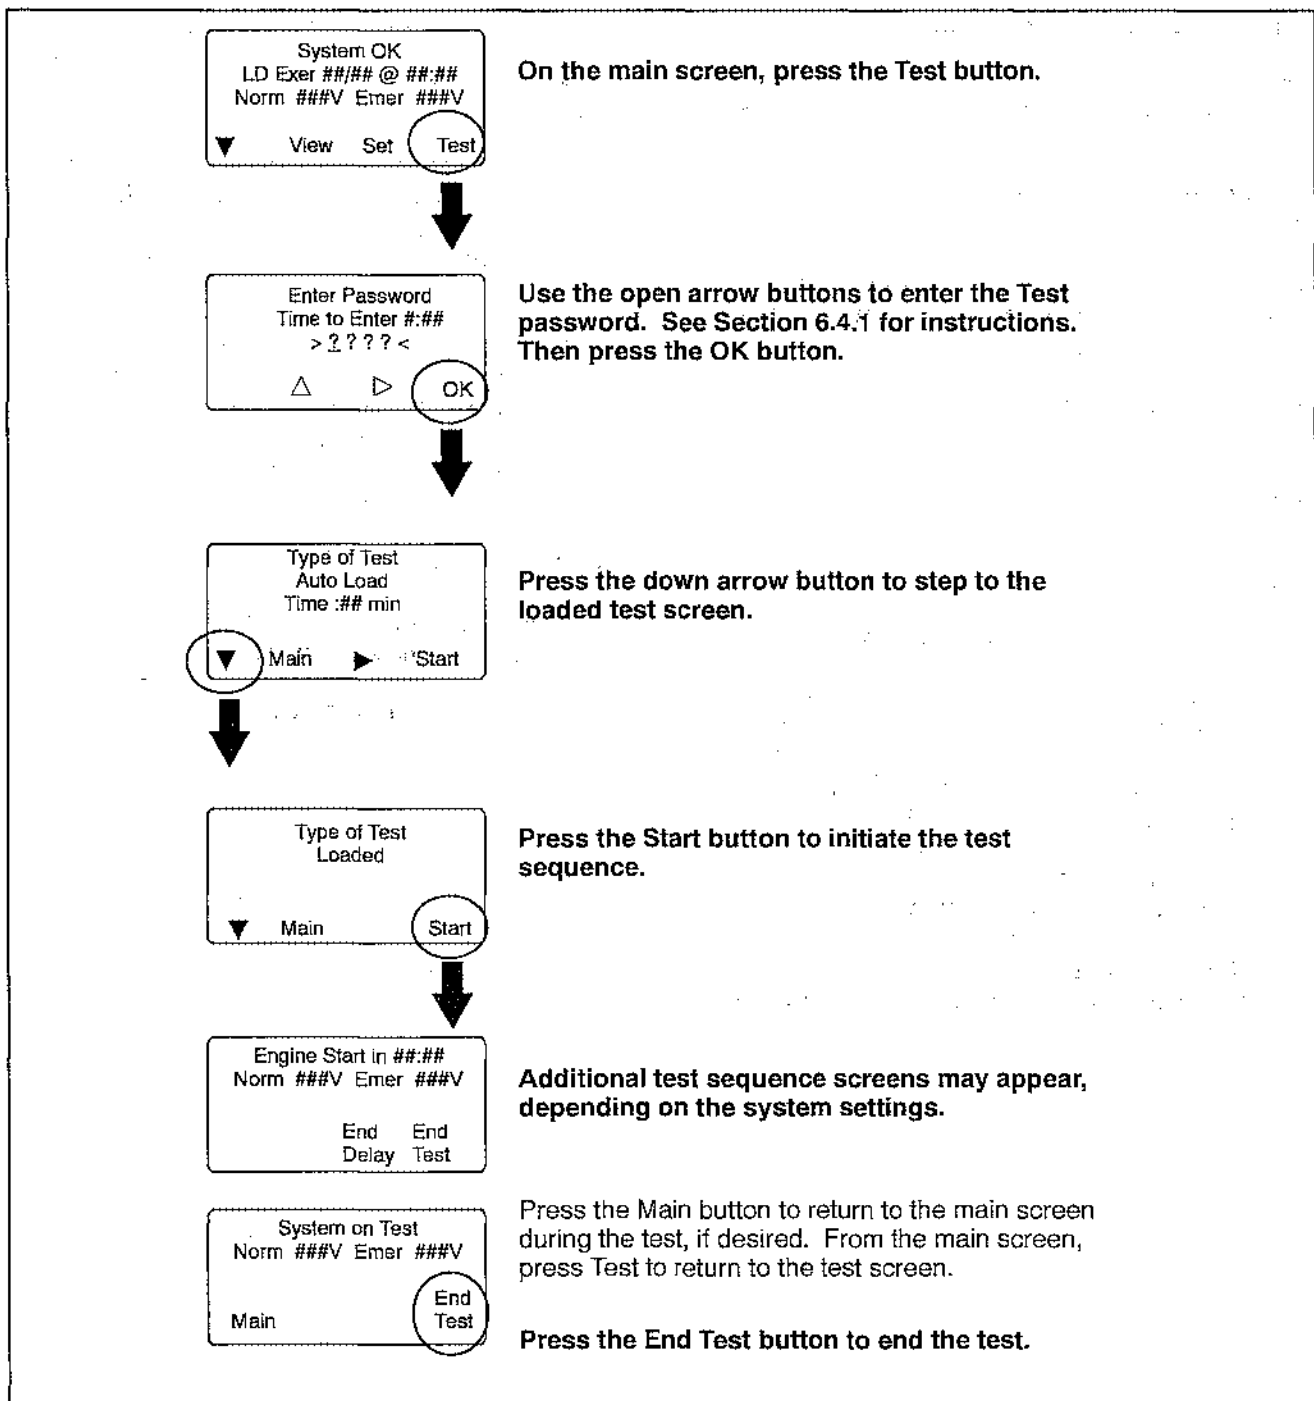

Figure 3-2 Starting and Stopping the Automatic Operation Test
3. Refer to Figure 3-2. From the main screen, press the Test button. Enter the test password when prompted and press OK.